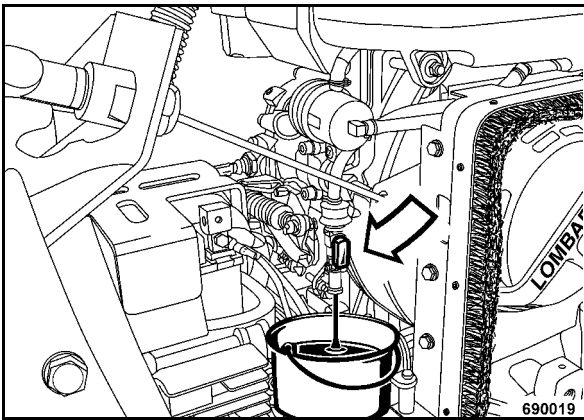

Fig. 49
- Open the drain cock (Fig. 49), drain off and catch the fuel.